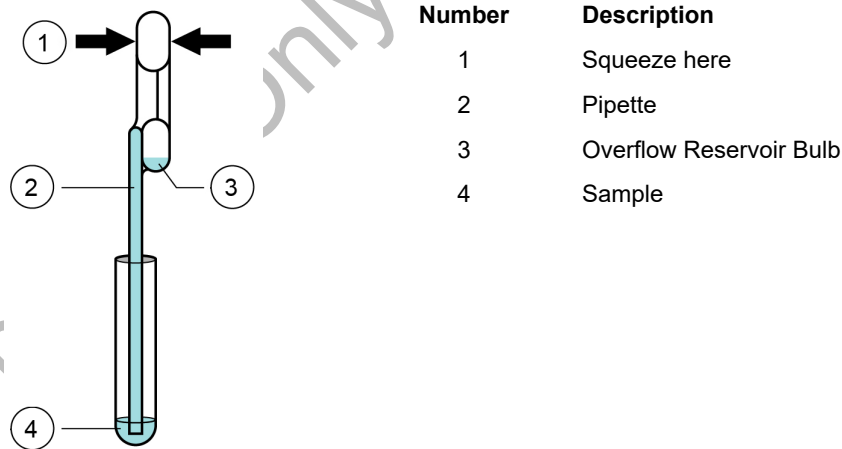

Figure 21. Transfer Pipette
13. Squeeze the top bulb of the transfer pipette **completely until the top bulb is fully flat**. While continuing to hold the bulb fully flat, place the pipette tip in the specimen transport tube (see Figure 21).
14. Keeping the pipette below the surface of the liquid, release the top bulb of the pipette slowly to fill the pipette with sample before removing from the tube. It is okay if liquid goes into the overflow reservoir (see Figure 21). Check that the pipette does not contain bubbles.